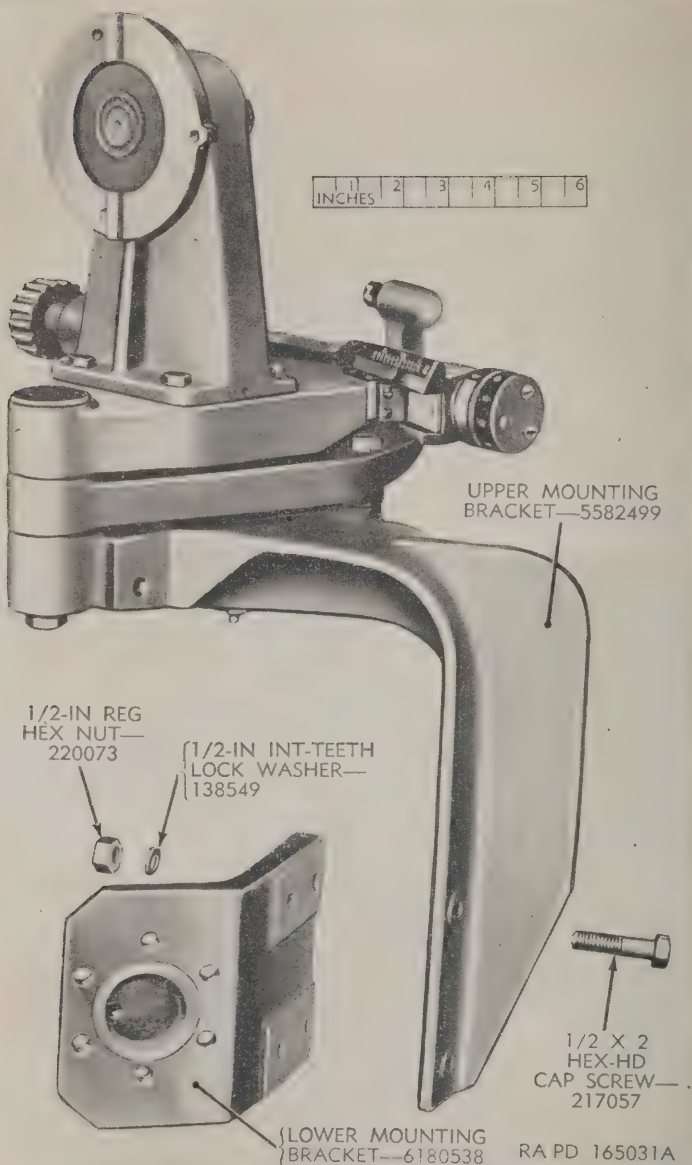

Figure 57. Telescope mounts M52C and M52D—removal of the lower mounting bracket.
b. *Lower Mounting Bracket (Telescope Mounts M52C and M52D)* (fig. 57). Remove the four hex nuts and lock washers from the hex-head cap screws that secure the lower mounting bracket to the upper